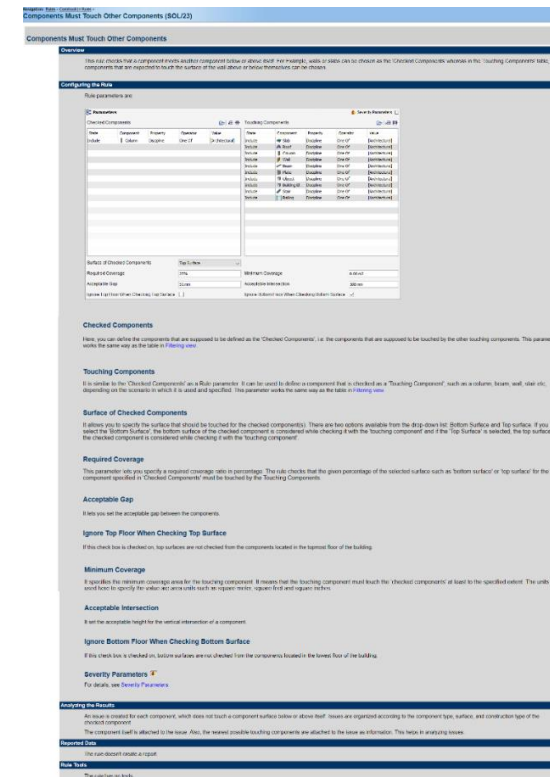

Figure 47: Rule documentation
- (5) From the **Info View** click "Rule Help" and you will find the documentation related to this rule (see Figure 47).